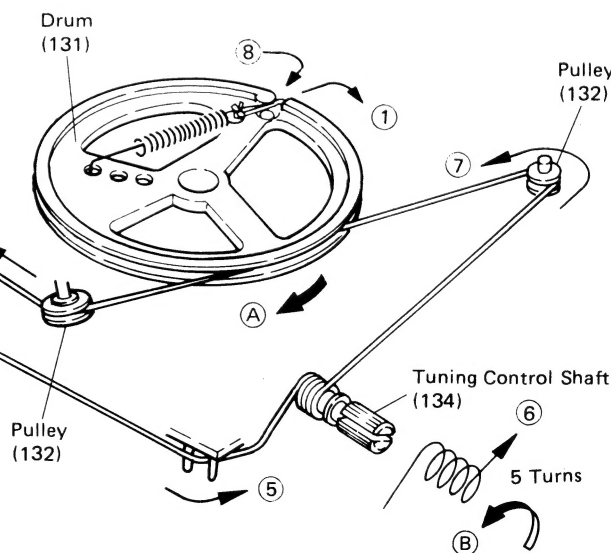

Figure 2-1
1. Turn the drum fully in the direction Ⓐ shown in Fig. 2-1 and stretch its cord over the parts in the numerical order.
2. Then turn the tuning control shaft fully in the direction Ⓑ shown in Fig. 2-1 and fix its pointer as shown in Fig. 2-2.